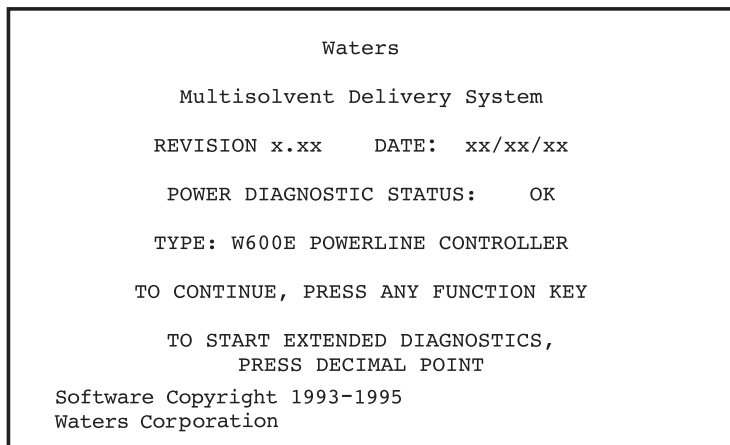

Figure 5-1 Powerup Screen
When the self-diagnostic routine successfully completes, the Powerup screen appears (Figure 5-1).
7. When the tests are complete, the Powerup screen (see Figure 5-1) reappears. At this time you may: